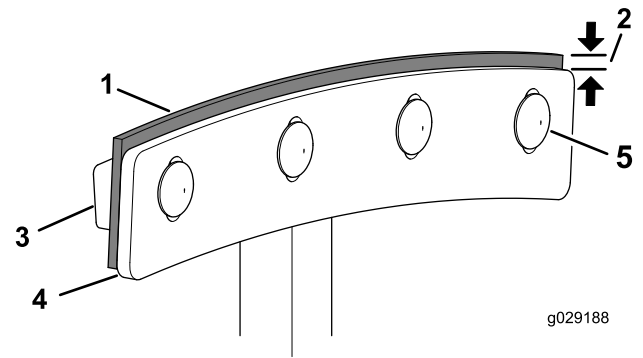

Figure 64
4. Loosen the carriage bolts and flanged locknuts that secure the paddle blade and wiper to the paddle (Figure 64).